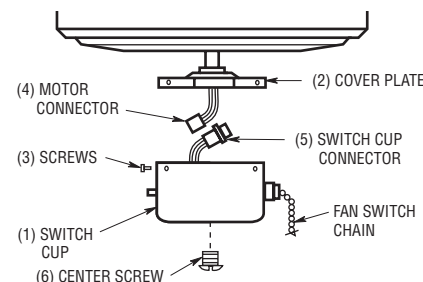
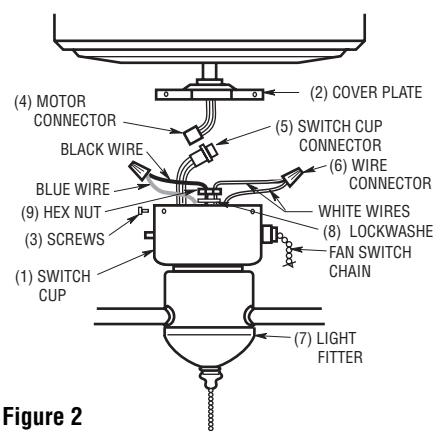

Figure 1
Figure 2
3. Remove the switch cup (1) from the cover plate (2) by removing the three screws (3) around the side of the switch cup (Figure 1).
4. Disconnect the motor connector (4) from the switch cup connector (5).
5. Remove the center screw (6) from the switch cup.
7. Insert the black and white wires from the light fitter (7) through the center hole in the switch cup (Figure 2) and thread the switch cup onto the light fitter. Hold wires taut while installing switch cup to prevent the wires from twisting. Tighten the fitter until the fan switch.
8. Insert the black and white wires through the lockwasher (8) and hex nut (9) (supplied). Firmly tighten the hex nut to secure the light kit fitter to the switch cup.
9. Connect the white wire from the switch cup to the white wire of the light fitter (Figure 2). Connect the blue wire from the switch cup to the black wire of the light fitter. Use listed wire connectors (6) (supplied) to make connections (Figures 2 and 3).
10. Carefully tuck all wires and splices into the switch cup (1). (Figure 2.)
11. Connect the motor connector (4) to the switch cup connector (5).
12. Position the cup/light fitter (1)(7) on the cover plate (2) and install the three screws (3) that were previously removed in step 3 and tighten securely.